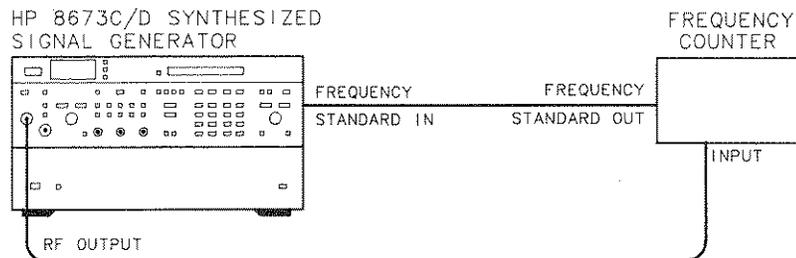

Figure 4-10. Frequency Range and Resolution Test Setup
1. Connect the equipment as shown in Figure 4-10. Set the Signal Generator rear panel **FREQ STANDARD INT/EXT** switch to **EXT**. Remove the **FREQ STANDARD** jumper and connect A3J10 to the 10 MHz frequency standard output of the frequency counter. With the Signal Generator and the frequency counter sharing a common timebase, the frequency counter should agree with the Signal Generator **FREQUENCY MHz** display ± 1 count with any selected frequency counter resolution.